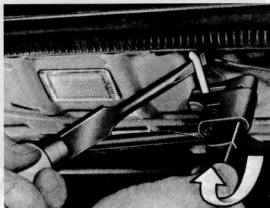

Fig. 12.23. Releasing the luggage compartment hinge torsion rod (Sec. 18)
- 2 To remove the torque rods, unhook the anchored end from the centre of the underside of the parcel shelf by twisting the rod upward using an adjustable wrench and prising the hooked end out of the hole with a screwdriver (Fig. 12.23).